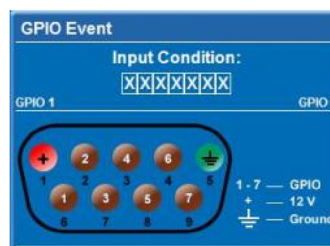

FIGURE 4-15 GPIO OUTPUT HELPER
- If a **GPIO** command string is needed, click the **GPIO Output Helper** button for instructions on how to create the command structure. **NOTES:** **1)** The **Output** field contains 7 blocks which refer to the 7 I/O pins on the GPIO connector. Pin 1 = +12V and Pin 5 = Ground. These are not included. **2)** Clicking a block toggles between H, L, and X. **3)** If the Pulse check box is selected, those I/O Pins defined will pulse high or low. See Figure 4-15 GPIO Output Helper. See Appendix B for detailed information.